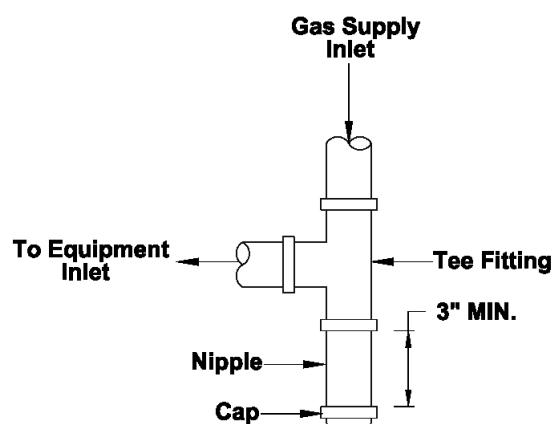

Figure 25 - Sediment Trap (Typical)
- NFPA** Code and Hearthstone require the use of a dedicated sediment trap just upstream of the unit. Damage to the valve, or other components due to the lack of a sediment trap are not covered by warranty (see figure 25).